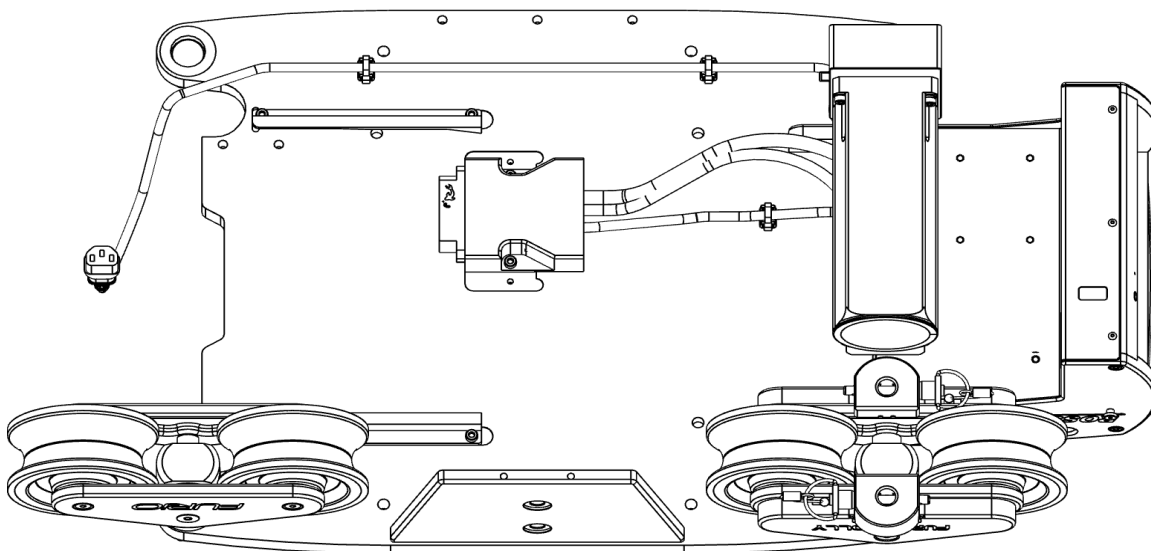

Figure 13 - Inverted Dolly Base Placed on its Back
3. Have one or two people lift and hold up the end of the dolly while another guides it on its back, as shown in **Figure 13**.